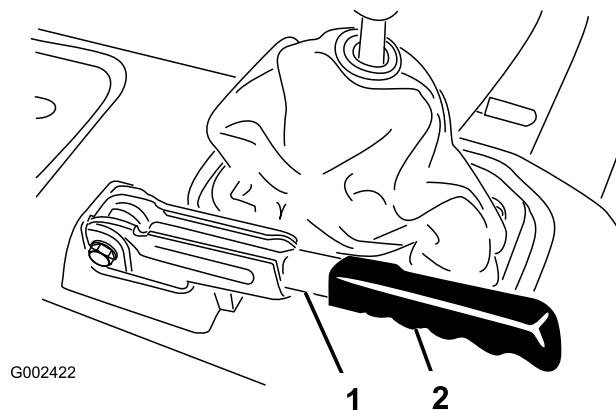

Figure 60
1. Remove the rubber grip from the parking brake lever (Figure 60).